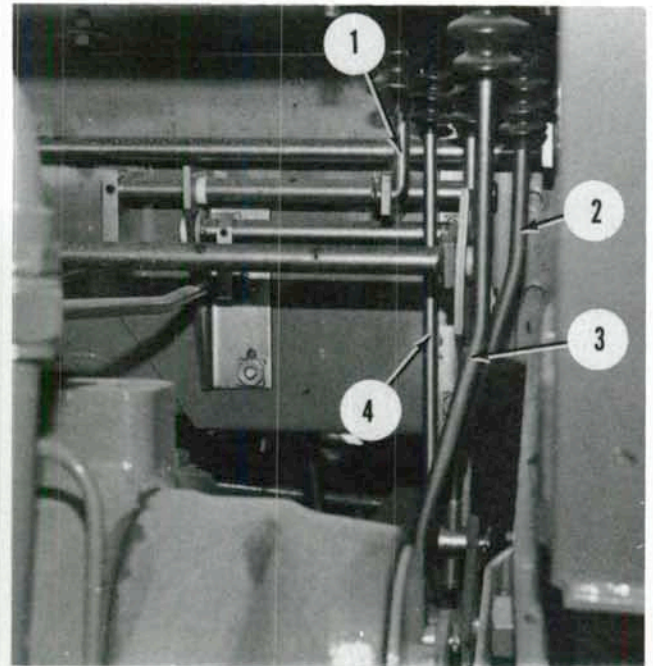

Fig. 356—View of hydraulic system control linkage located on right side of cab.
At rear of cab, disconnect remote control valve linkage (1—Fig. 356), hydraulic lift control rod (2), system selector rod (3) and variable flow control rod (4). Unbolt and remove support bracket from end of hydraulic lift control cross-shaft. Disconnect pto control rod at upper end of actuating rod. Disconnect cab ground strap from hydraulic lift cover.